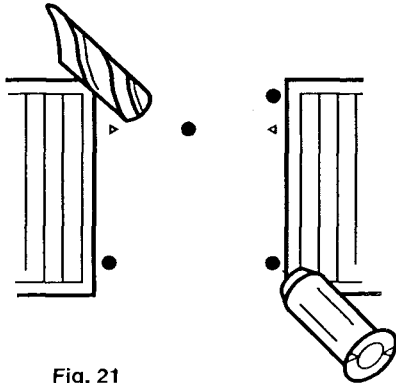

Fig. 21
3. Drill the anchorage holes 63mm ($2\frac{1}{2}$ in) deep to accept suitable wall plugs (Fig. 21).